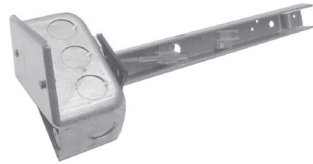

Figure 21. Sensor Holder and Junction Box Assembly
- b. For units with sensor holder and junction box assembly option (see Figure 21):